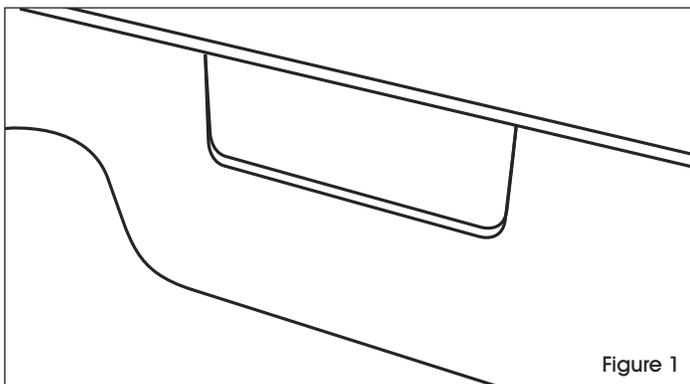

Figure 1
1. Locate one of the indented rectangular areas on the outside surface of the workstation. (See Figure 1) This is the recommended area for placement of the connectors.